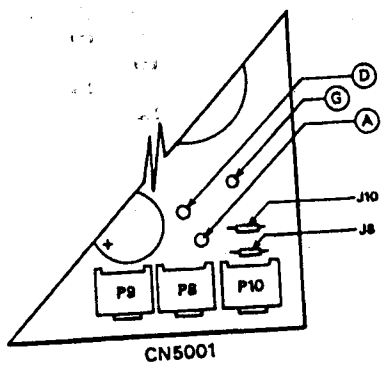

Figure 4-1. Connection Locations
3. The small, plug-in circuit board has three leads which have to be connected to the control circuit board. For the location of the connecting pins, see Figure 4-1. The two black leads connect to points A and D (non-polarized) and the red lead should be attached to point G.
2. Connect the 10 microfarad (μf) capacitor (C10) provided, to points A and D on the control circuit board (see Figures 4-1 and 4-2).